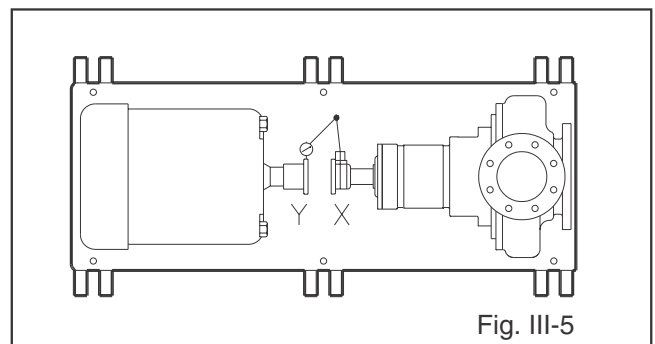

Fig. III-5
3. **Negative Reading** - Coupling half Y is to the left of coupling half X. Correct by sliding driver evenly in the appropriate direction (Fig. III-5).